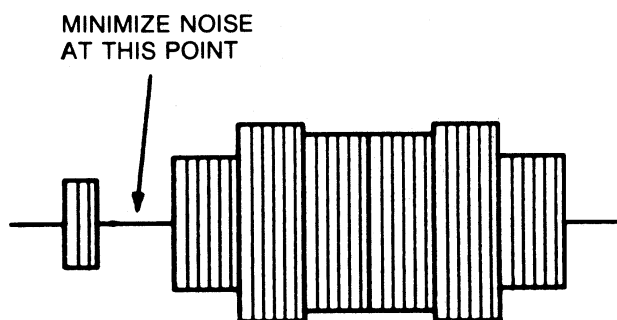

Fig. 3 - R-Y/B-Y Null Adjustment
4. Alternately adjust the *R-Y Null* control (R8422) and the *B-Y Null* control (R8424) to minimize the non-chroma portion of the signal at Q8210-E (see Fig. 3).